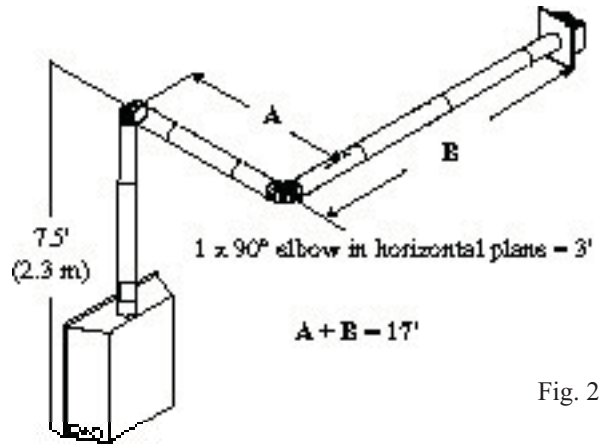
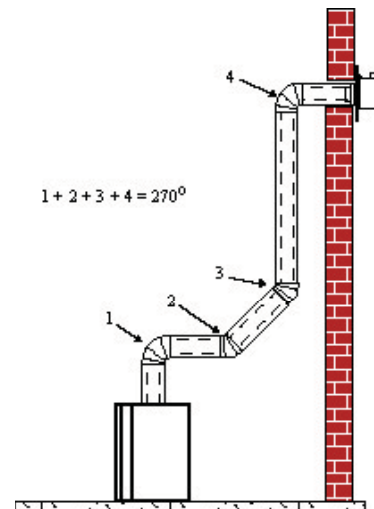

Fig. 20
Fig. 21
- If a 90° elbow is used in the horizontal vent run (level height maintained) the maximum horizontal vent length is reduced by 36" (914 mm), (Fig. 20). This does not apply if the 90° elbows are used to increase or redirect a vertical rise (Fig. 21).
In Fig. 20 Dimension A plus B must not be greater than 17' (5.2 m).
- The maximum number of 45° elbows permitted per side wall installation is two (2). These elbows can be installed in either the vertical or horizontal run.
- The maximum number of elbow degrees in a system is 270° (See Fig. 21).
Example: In Figure 21